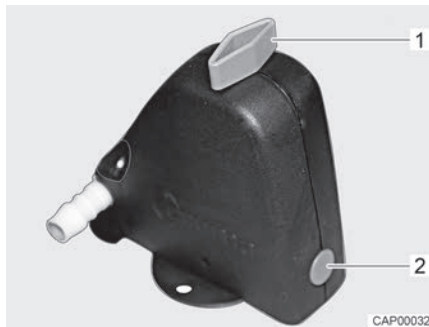
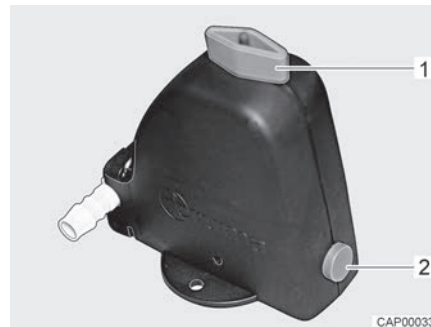

Fig. 111 Safety/drainage valve closed
Fig. 112 Safety/drainage valve open
- Open the safety/drainage valve (Fig. 111). To do this, turn the knob (Fig. 111,1) parallel to the safety/drainage valve. The push button (Fig. 111,2) jumps out. The open safety/drainage valve is shown in Fig. 112.